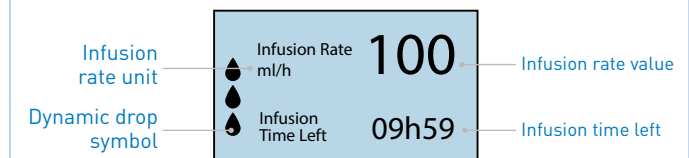

Figure 1: Pump screensaver
4. The water droplet symbol on the left of the LCD display screen indicates the infusion pump is working. After 15 seconds in the screensaver mode, the pump screen displays the infusion rate values, the infusion rate unit, infusion time left and the dynamic water droplet symbol, as shown in Figure 1.